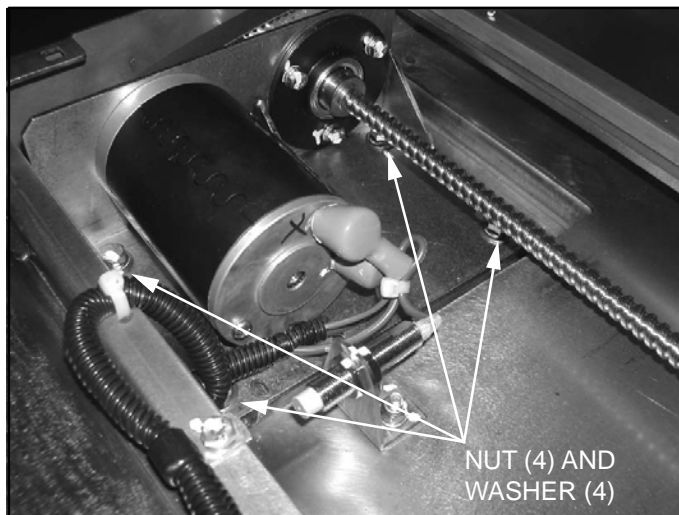

FIGURE 4-14: MOTOR DRIVE HARDWARE
- e. Refer to **Figure 4-14**. Remove and retain four bolts and four washers that attach motor drive bracket to enclosure.